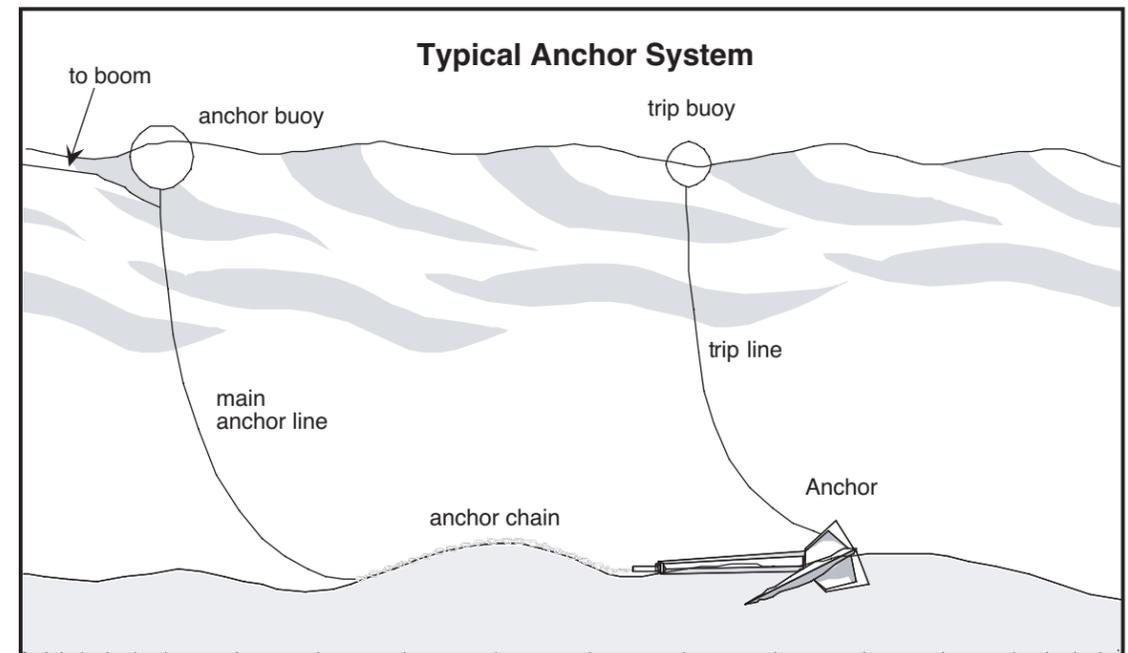

Figure G-2-4. Boom angle relative to current.
- See Figure G-2-4 for anchor system components.